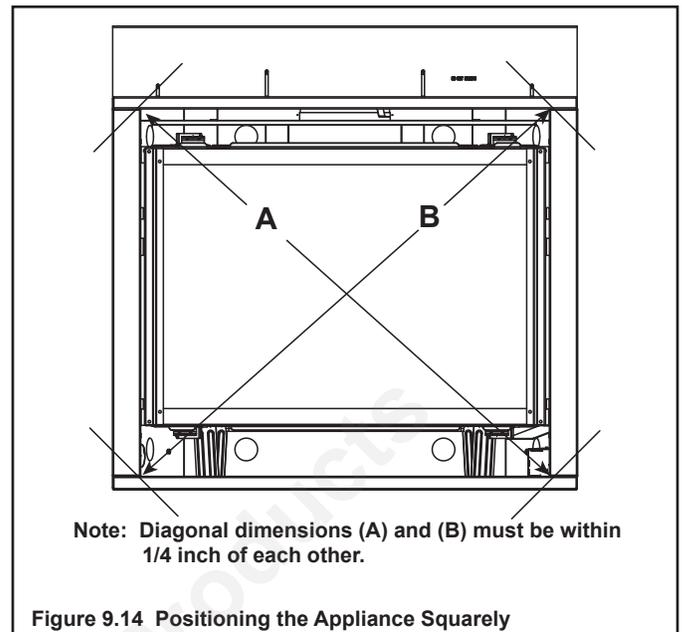

Figure 9.14 Positioning the Appliance Squarely
- “Square” the unit by securing diagonal dimensions to within 1/4 inch of each other. See Figure 9.14.